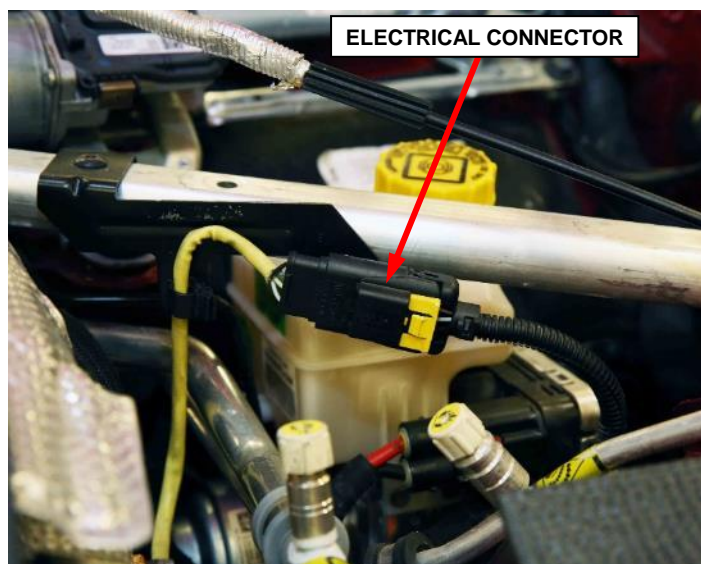

Figure 10 – O2 Sensor Electrical Connector
15. Release the retainers then remove the oxygen (O2) sensor wiring harness electrical connector from the left side engine box reinforcement brace (Figure 10).
7. Install the O2 sensor wiring harness electrical connector to the retainers on the left side engine box reinforcement brace and secure the retainers (Figure 10).